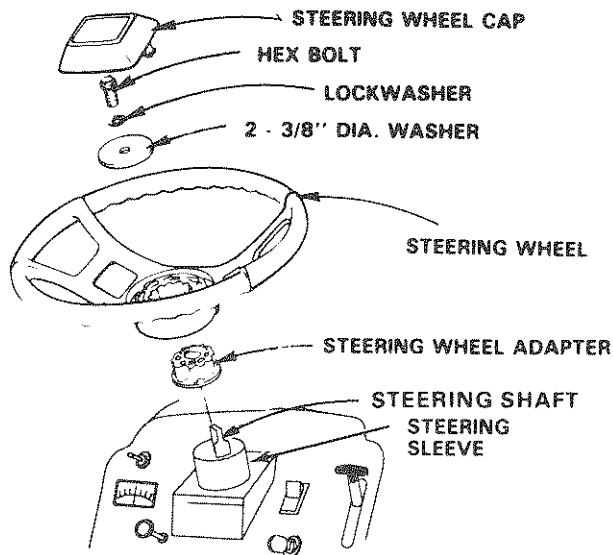

FIGURE 3
- a. Use a 9/16" wrench to remove hex, bolt lockwasher and 2-3/8" diameter washer (shown full size below) from steering column (Fig. 3).
- c. Secure steering wheel to steering shaft using hex bolt, lockwasher and 2-3/8" diameter washer (Fig. 3).